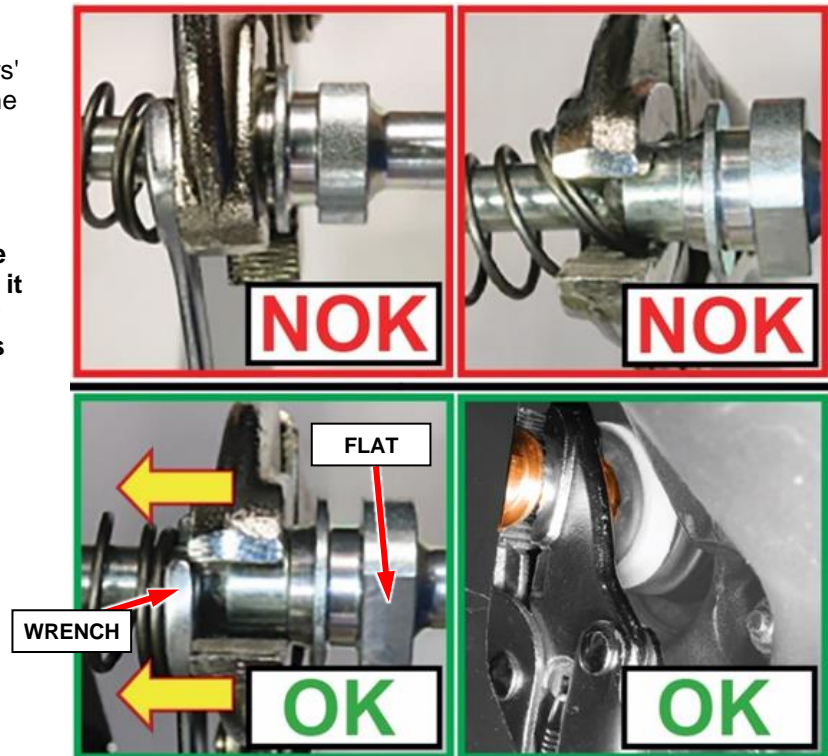

Figure 7 – Position Locking Pliers
10. Position the grip pliers with pressure towards the open-end wrench that compresses the spring, so that the pliers' beaks are on the clamping surface of the push rod (Figure 7).